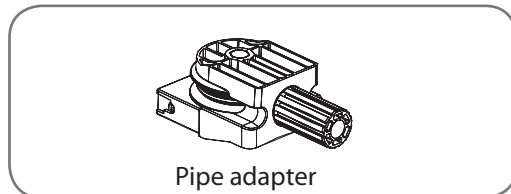

fig 02
- At the door end of the finished rail, attach the pipe adapter assembly (**Fig. 02**).